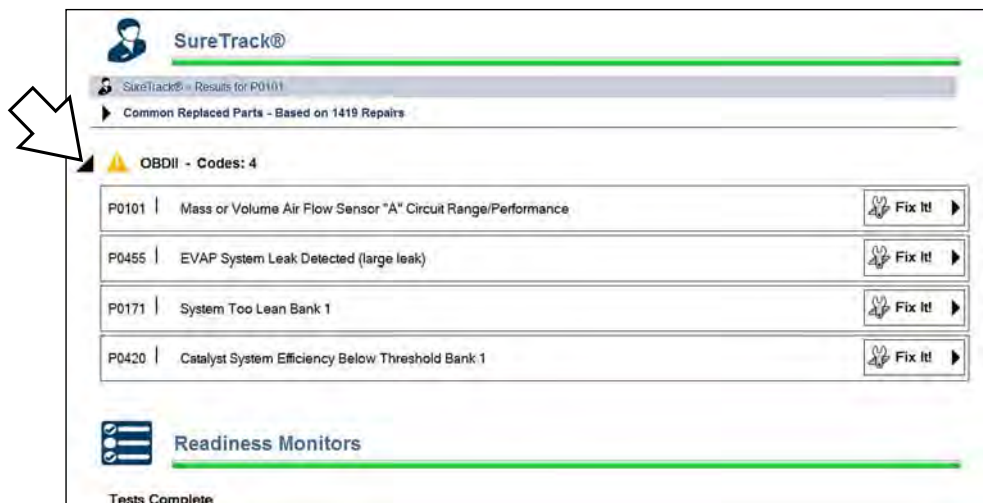

Figure 4-21
- **Global OBDII DTCs.** Towards the end of the Code Scan Report Global OBDII DTCs are displayed (if applicable) (Figure 4-21).